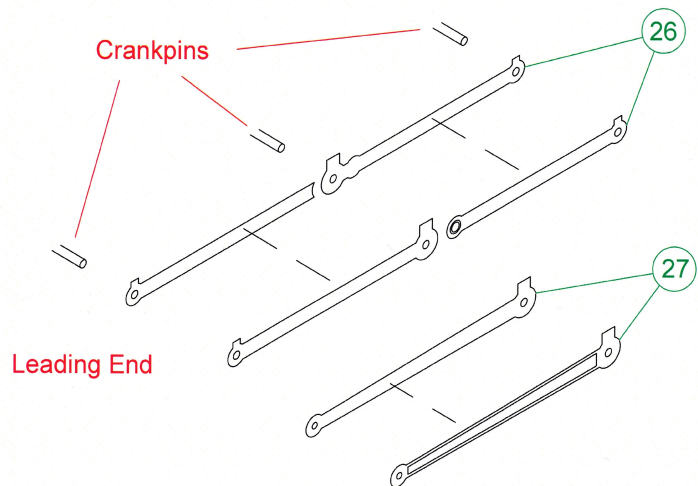

Fig. 2.
Before fitting the cab front, take the bunker front (8) and fold it as in fig. 2. Fit the coal chute (9) to it. Solder it in place so that it sits just behind the cab door, [see the red line in fig.2]. When this is done fit the cab front in place.